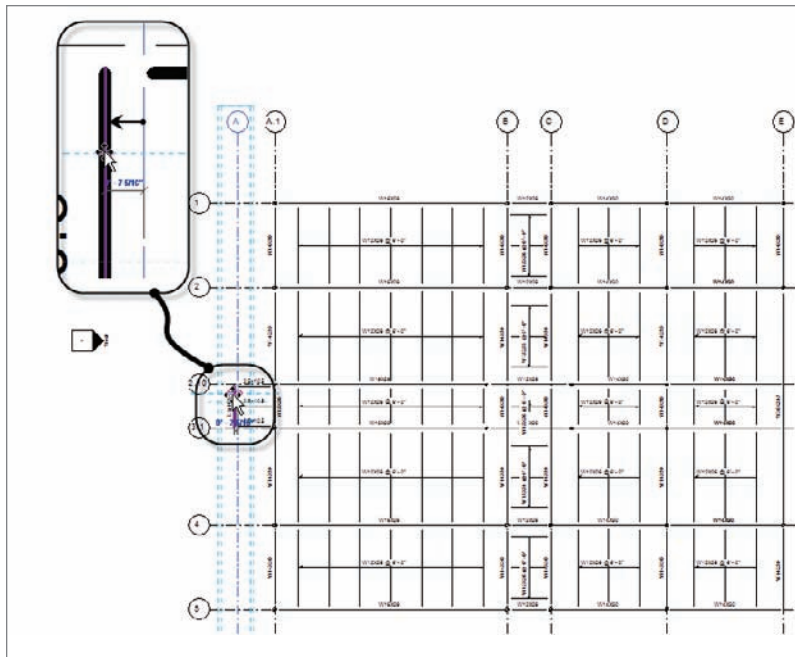

FIGURE 20.12 Moving grid A
3. In the `NER-37_STRUCTURAL.rvt` model, open the Level 2 structural view; then move grid A to the left so it is in alignment with the beam located between grids 2.10 and 3.1, as shown in Figure 20.12.